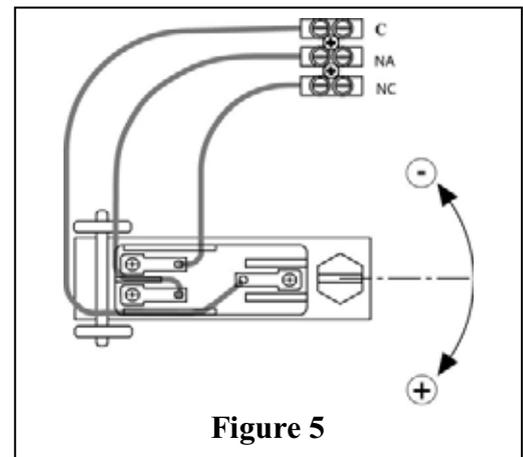

Figure 5
Pressure switches type: 3.26 - 3.27 - 3.30 and differential pressure switches mode B.28 - 3.29 are provided of internal terminal blocks with screws terminals (Figure 5) with cables whose maximum sections should be 2.5 mm^2 and terminal block for ground connection both internal and external provided of wire terminal.
1. Connect the micro-switch to warning lamp or a sound source as shown in fig.5 in order to have a clear reference signal of the performance itself;